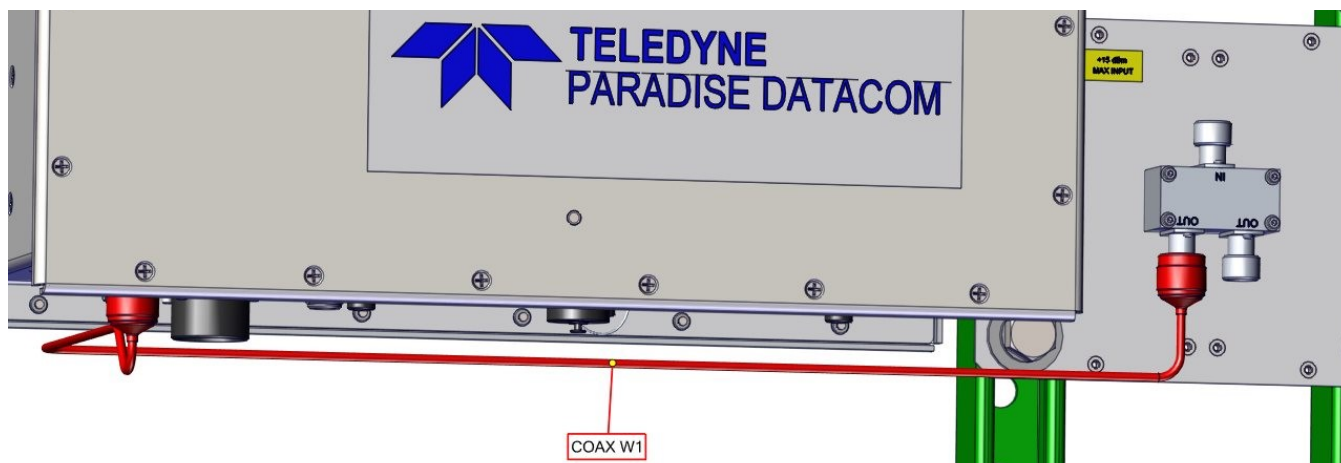

Figure 1-22: Connect Coaxial Cable Between Splitter and HPA RF Input (J1) Connector
Pre-formed semi-rigid coaxial cables are run between the N-type (F) OUT connectors of the splitter to the N-type (F) RF Input (J1) connectors of each HPA. See **Figure 1-22**. Refer to the label on each cable and your system's schematic to verify the cable connection location. Do not bend or otherwise attempt to change the shape of these cables. Repeat for each HPA.